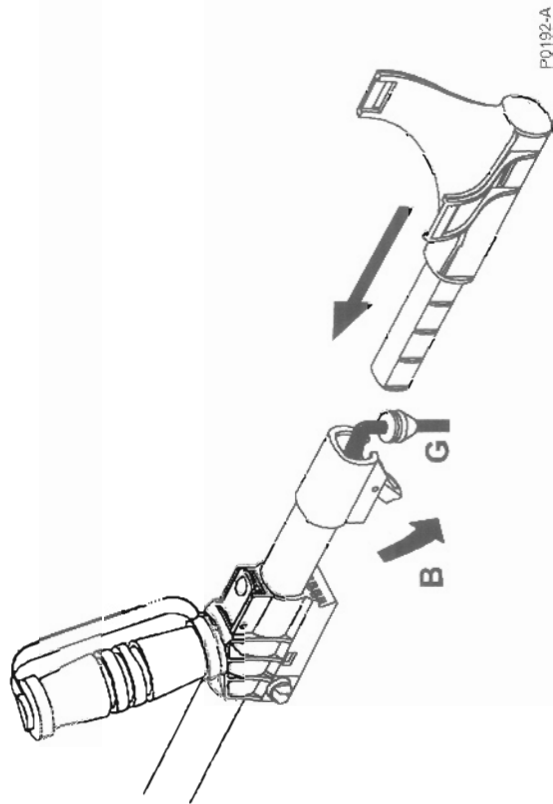

Figure 3 - The Golden Hawk Shaft Assembly
4.1 Shaft Assembly (see Figure 3)
- c. Release the locking lever (A) on the bottom end of the Upper Shaft, position the small end of the Lower Shaft inside the Upper Shaft and clamp these components together using the locking lever (A).
- d. Before attaching the Armrest, decide how the Control Box is to be positioned (see the diagrams in section 4.3 for more details on the correct positioning of the coil cable). Release the locking lever (B) at the top end of the Upper Shaft (the locking lever is part of an assembly known as a 'camlock'). Position the selected grommet (G) on the coil cable through the keyway in the upper locking lever, place the end of the armrest inside the Upper Shaft and clamp these two components together with the locking lever.